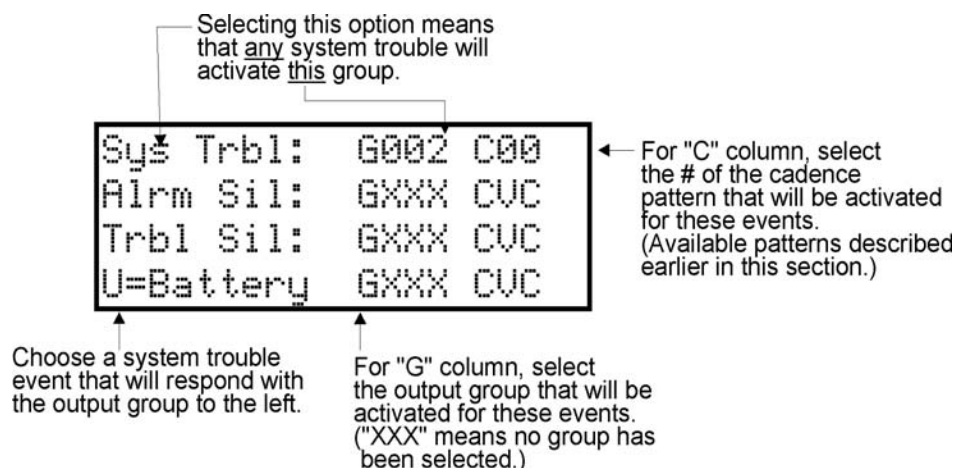

Figure 7-15 System Trouble Event Mapping Example
5. Press 1 for Trouble Events. A screen similar to the one in Figure 7-15 will display. Select a group and a cadence pattern for each event as needed for your application. The U: field is for a user-specified trouble condition. You can program an output group and cadence pattern for any of the following events: